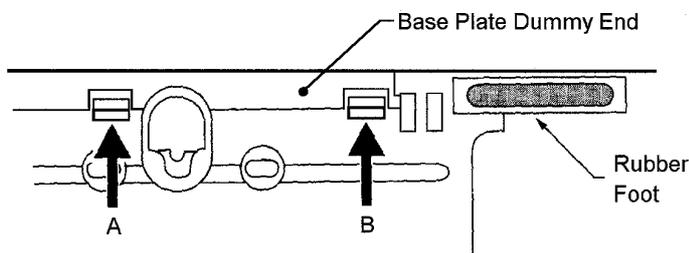

Figure 7-5 Removing Base Plate Dummy End
6. If an adapter is being installed, press tabs A and B to remove the dummy end from the base plate as shown in *Figure 7-5 Removing Base Plate Dummy End*.